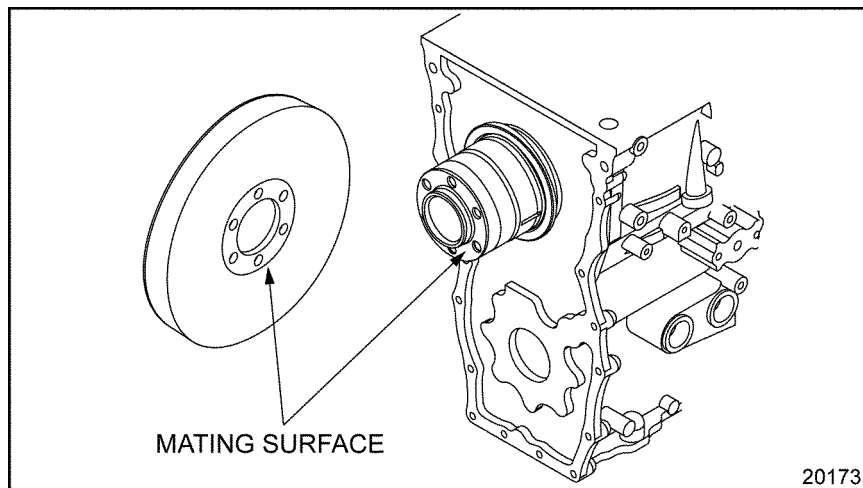

Figure 1-235 Damper and Crankshaft Contact Surfaces
2. Inspect the damper inner contact surfaces and the crankshaft end for damage. See Figure 1-235.